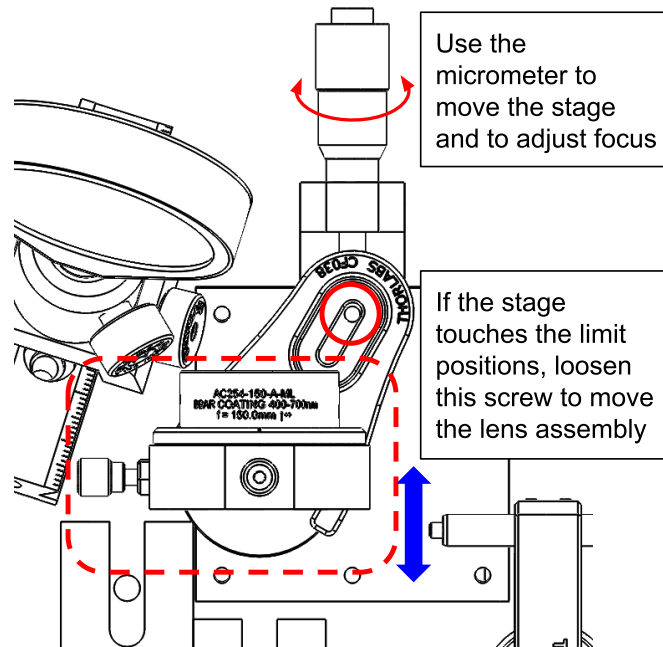

Fig. 13. Focus adjustment with a micrometer or by moving lens assembly
- If the stage hits one of its end positions, slightly loosen the screws (red circle in Fig. 13) and reposition the lens assembly. Once the focus is restored, tighten the screw again.